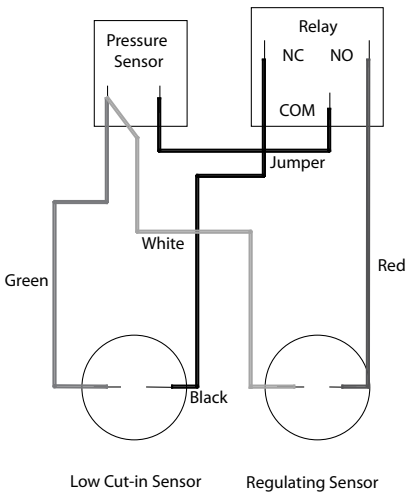

Figure 2: SubDrive NEMA 4 Wiring
5. Use the supplied six conductor pressure sensor cables to attach the sensor cable to the sensor as shown. (See Figure 2, pg 10, for wiring)